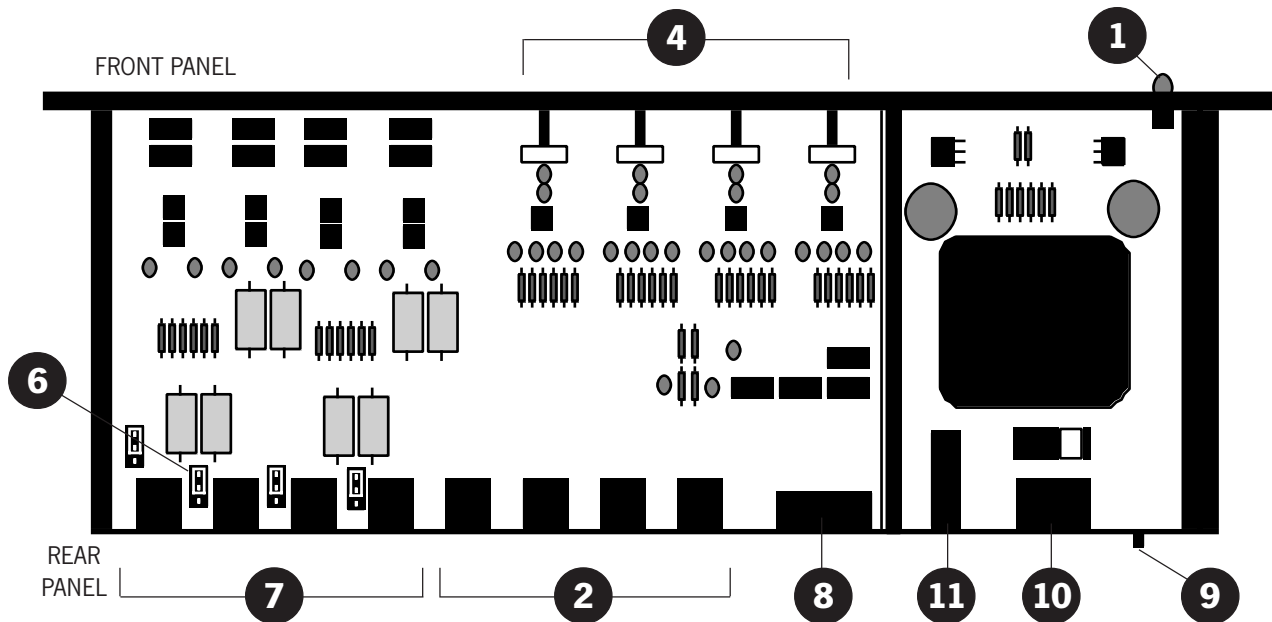

Figure 1.3: Interior View of RMX-44 Mixing Matrix
2. Locate the Balanced/Unbalanced Jumper Block next to the connector for the output you wish to reconfigure. These are called out on Figures 1.3